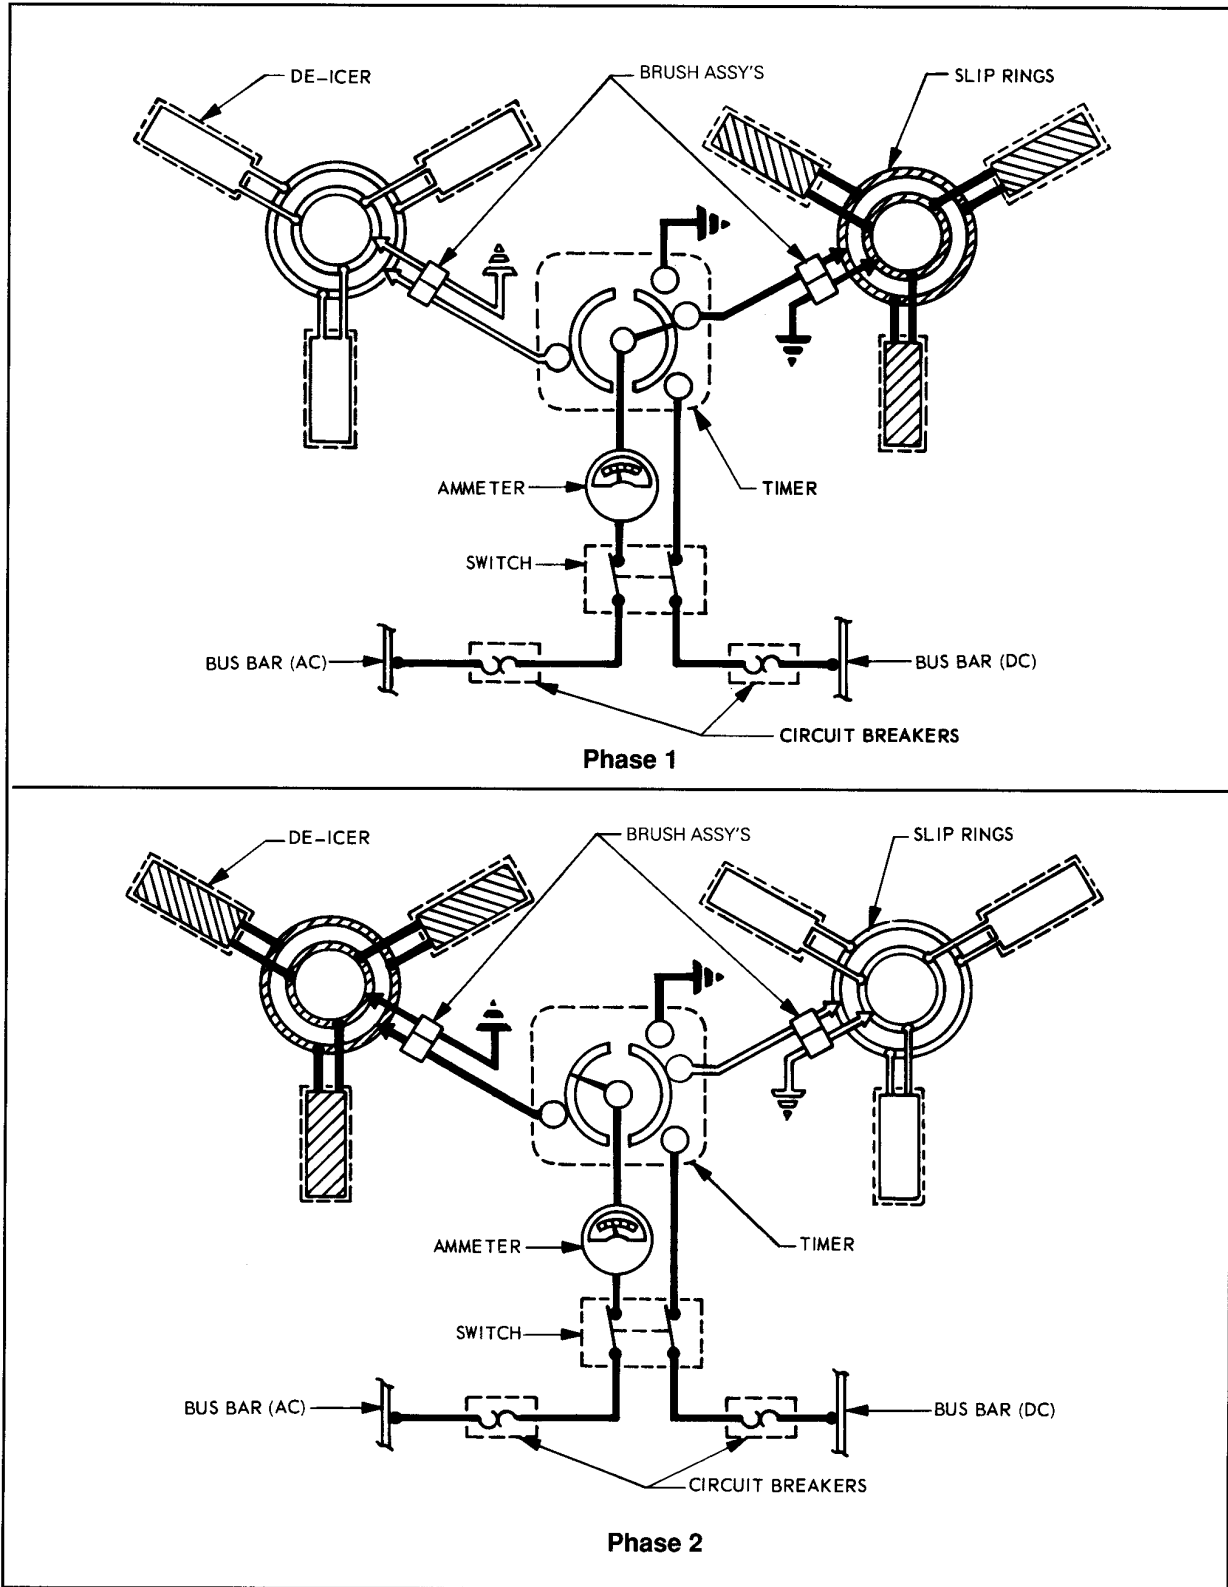

Figure 3 – Single Element Twin Engine De-Icing Cycle
- d. Single element de-icer heating sequent, twin engine aircraft: **(Figure 3, page 4)**